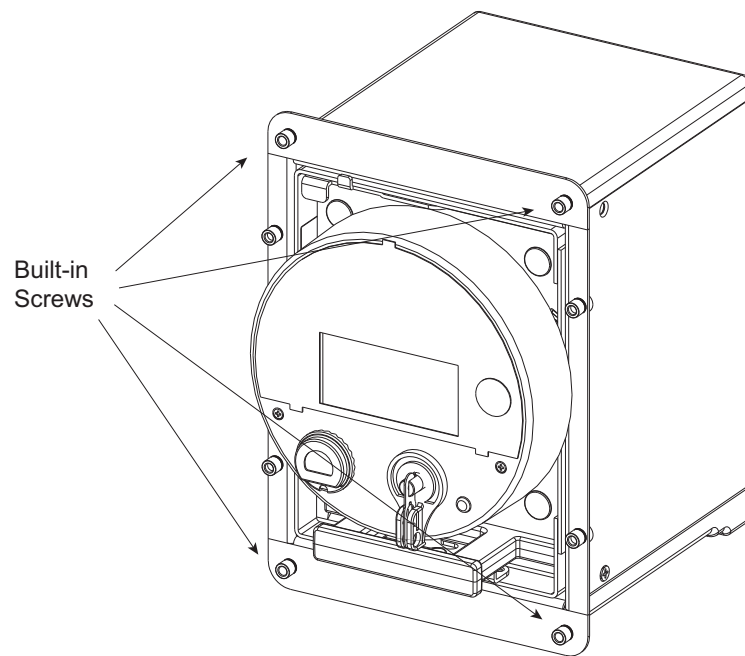

Figure 12.7: Switchboard Case Front Showing 4 Built-in Screws
3. Position the Switchboard case front against the four screw holes and secure it by turning the four built-in screws in each of the corners. See Figure 12.7.